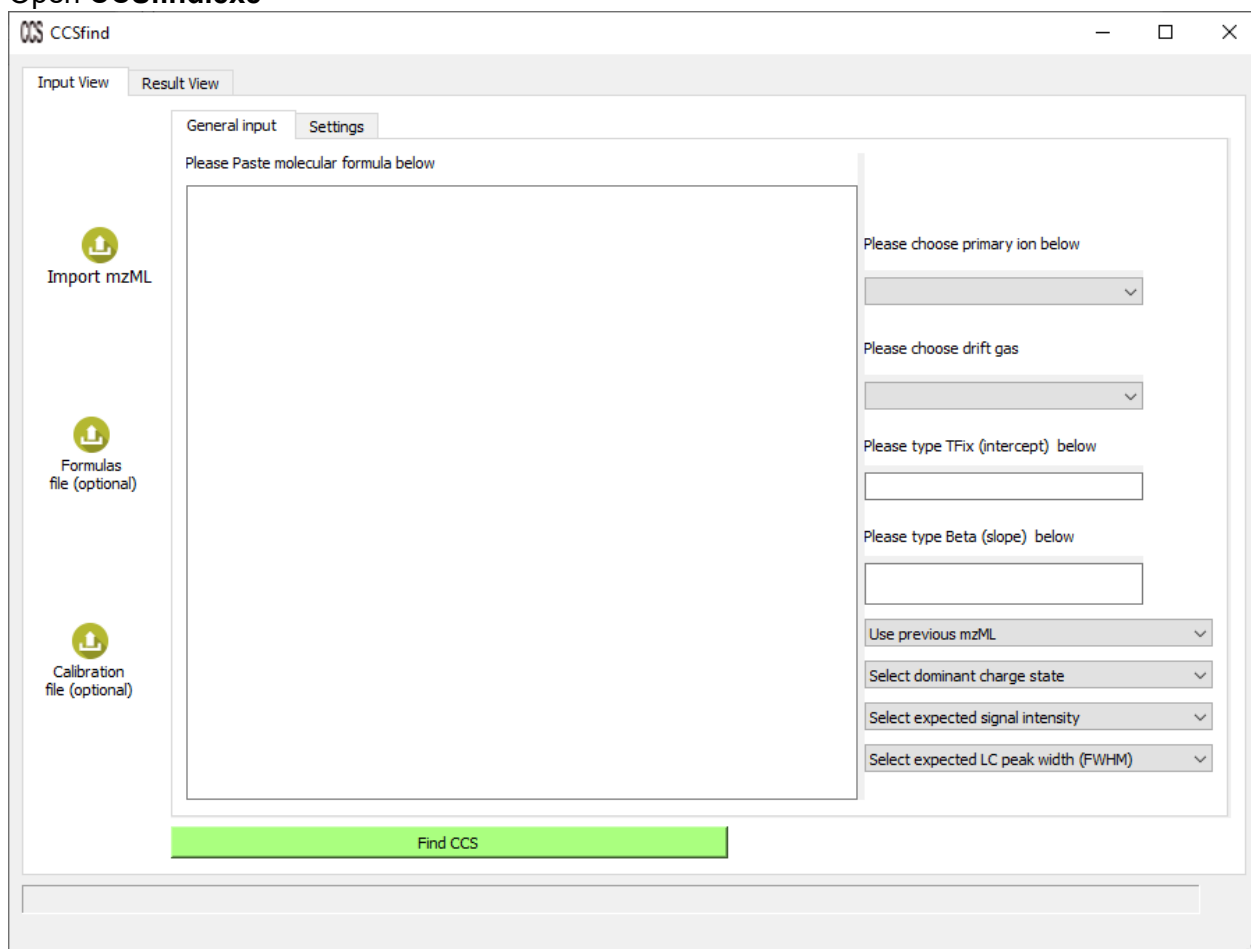

Figure S1. CCSfind start screen after opening.
16. If results are not satisfactory or additional formulas need to be found, the input settings can be adjusted and the option “Use previous mzML” (see **Figure S1**) set to “yes” to avoid repeating the parsing of the datafile.